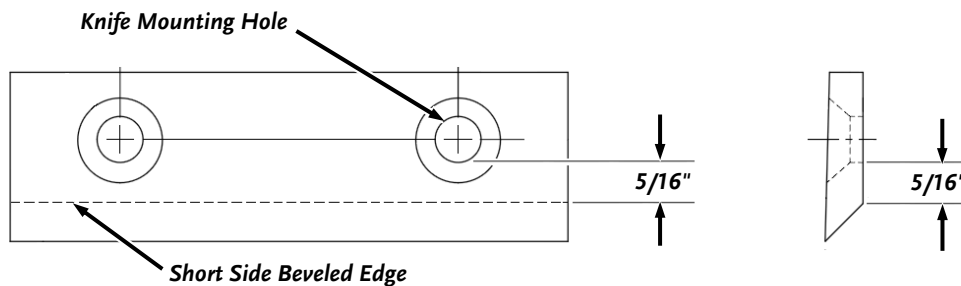

Figure 24: New Knife
- A new Chipper Knife has a $5/16$ " measurement between the short side bevel edge and the Knife mounting holes (**Figure 24**).